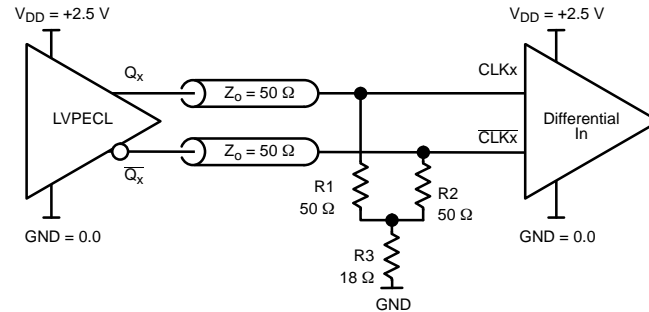
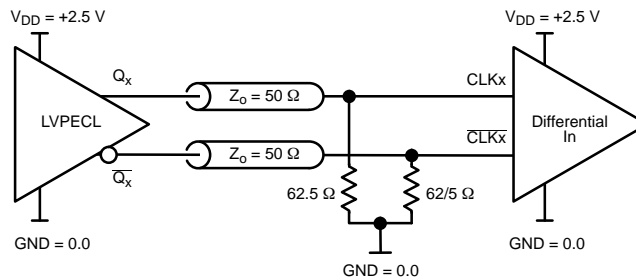

Figure 32. CLK / CLK Inverted Input Driven by 2.5 V LVPECL Driver ("Y" Parallel Termination)
Figure 33. CLK / CLK Inverted Input Driven by 2.5 V LVPECL Driver (Modified "Y" Parallel Termination)
- 2 V is very close to ground level. The R3 in Figure 32 can be eliminated and the termination is shown in Figure 33. Consult AND8020 for further termination information